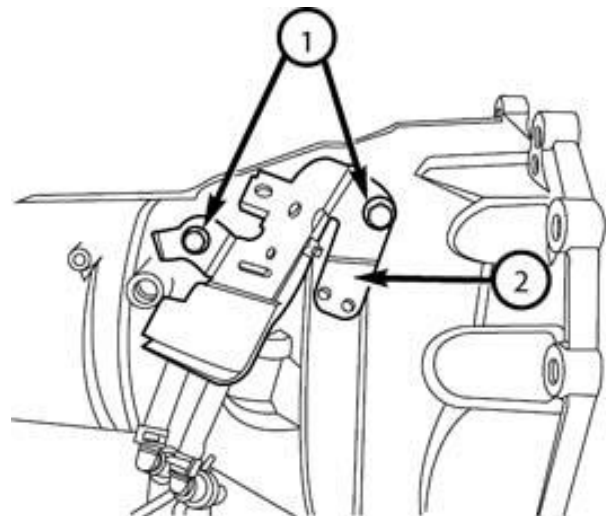

Figure 26 – Differential Pressure Sensor Bracket
63. Remove the Differential pressure sensor bracket (1) from the right side of the torque converter housing (Figure 26).